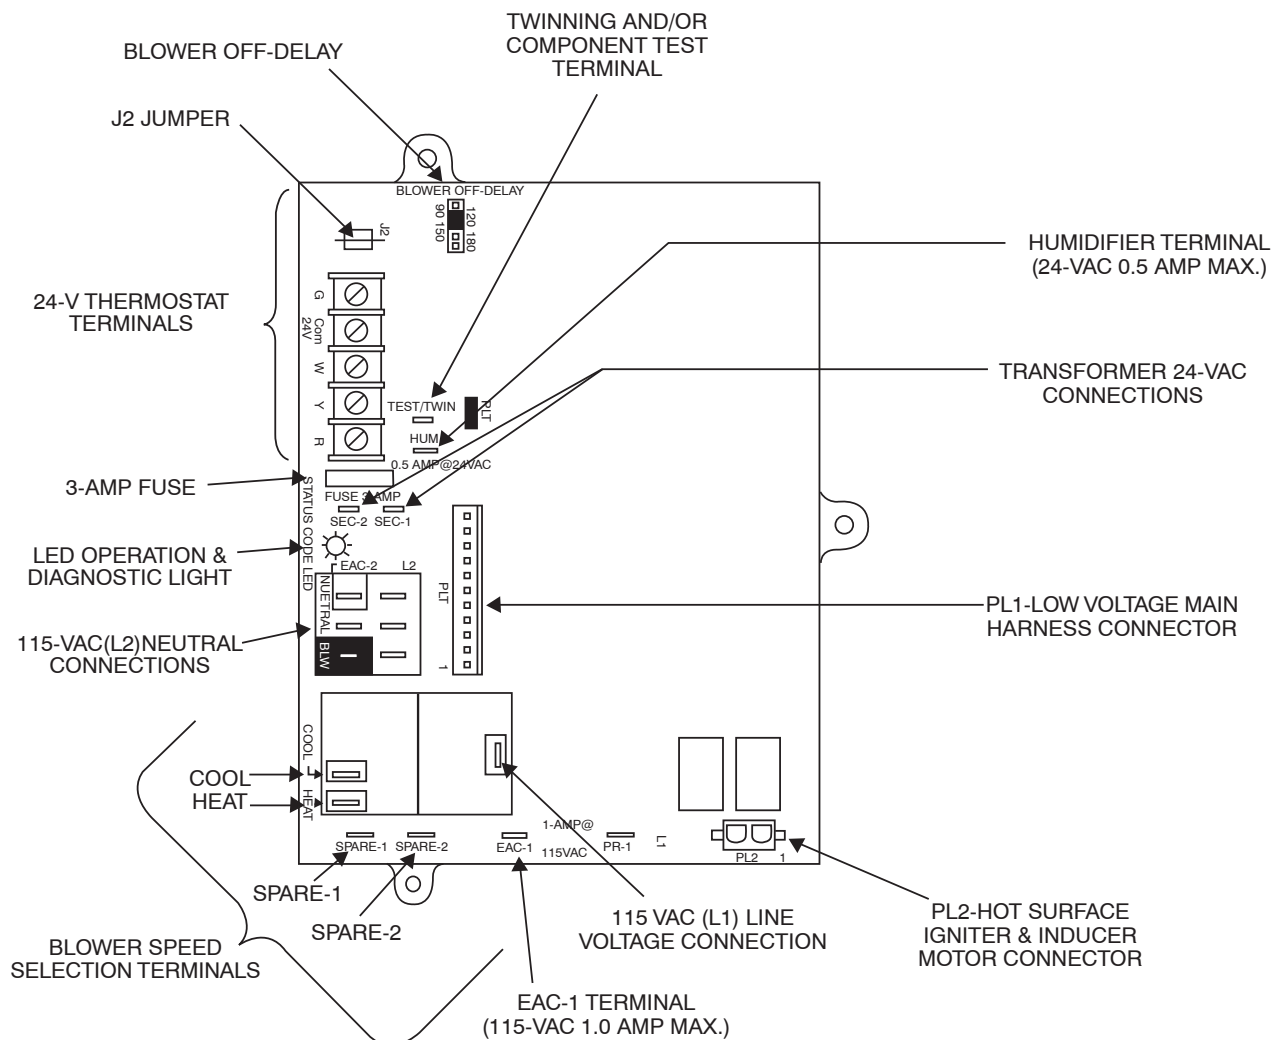
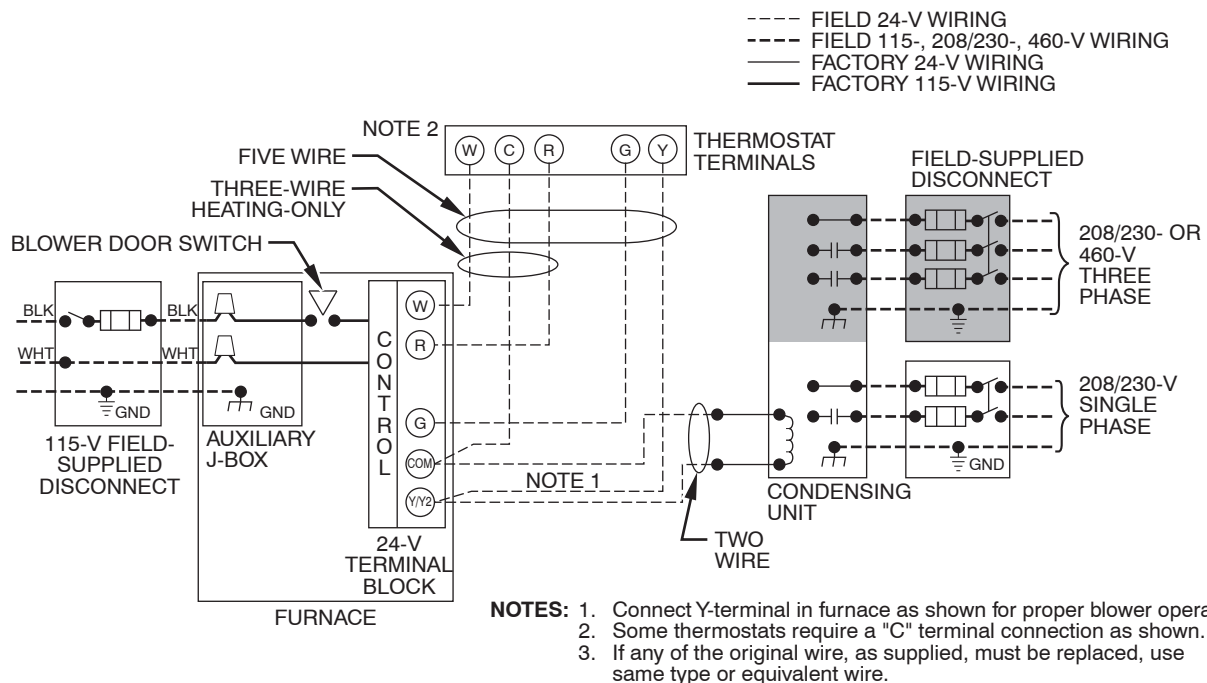

Fig. 25 – Furnace Control
Fig. 26 – Heating and Cooling Application Wiring Diagram with Single Stage Thermostat
See Fig. 26 for field wiring diagram showing typical field 115-v wiring. Check all factory and field electrical connections for tightness.
5. Connect line voltage leads as shown in Fig. 26.
12. Complete electrical box wiring and installation. Connect line voltage leads as shown in Fig. 26. Use best practices (NEC in U.S. and CSA C22.1 in Canada) for wire bushings, strain relief, etc.
Make field 24-v connections at the 24-v terminal strip. (See Fig. 25.) Connect terminal Y as shown in Fig. 26 for proper cooling operation. Use only AWG No. 18, color-coded, copper thermostat wire.